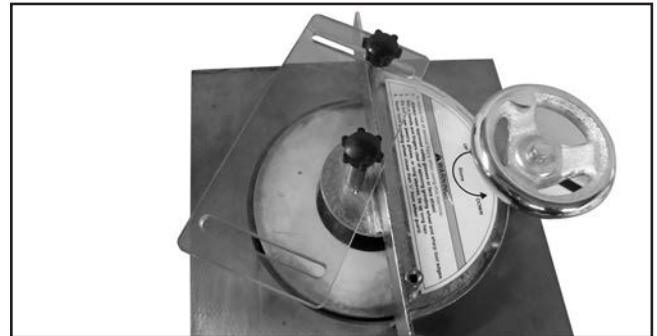

Figure 12. Adjustable guard alternate setup (knife clamp removed for illustration purposes).
3. If necessary, adjustable guard may also be set up at an angle to the wheel guard (see **Figure 12**).